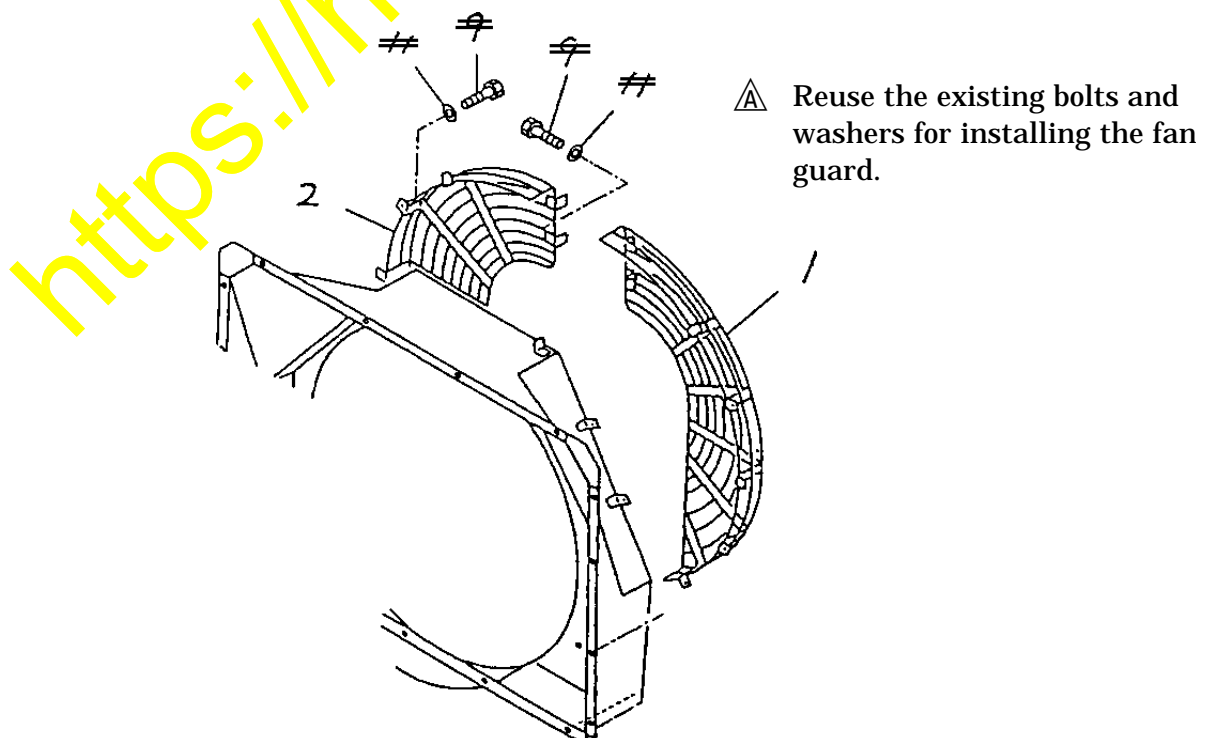

Fig. 1 Removing the current fan guard net halves
- (1) Replace the fan guard net halves 1 and 2 with the newly prepared fan guard net halves. (Refer to Fig. 1 and Fig. 4, Fig. 5.)